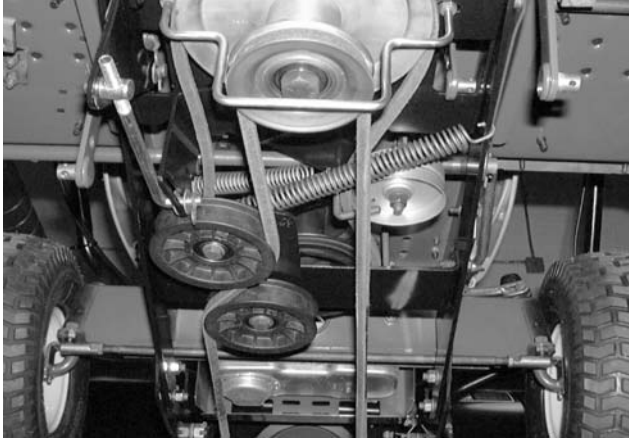

Figure 12-86.
- Pivot the belt guard to the left. See Figure 12-86.